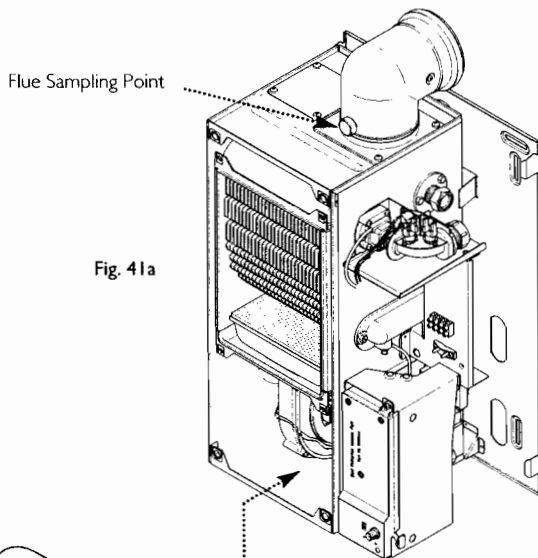

Fig. 41a
11. Check CO/CO² ratio at flue sampling point (Fig.41a). See section 4.0.